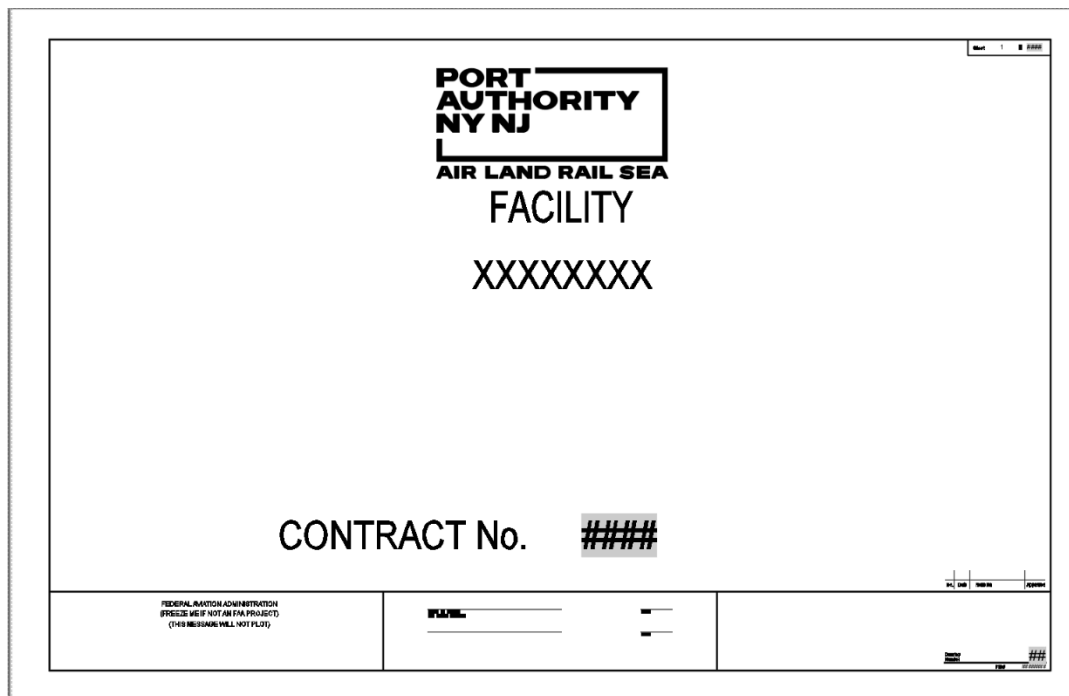
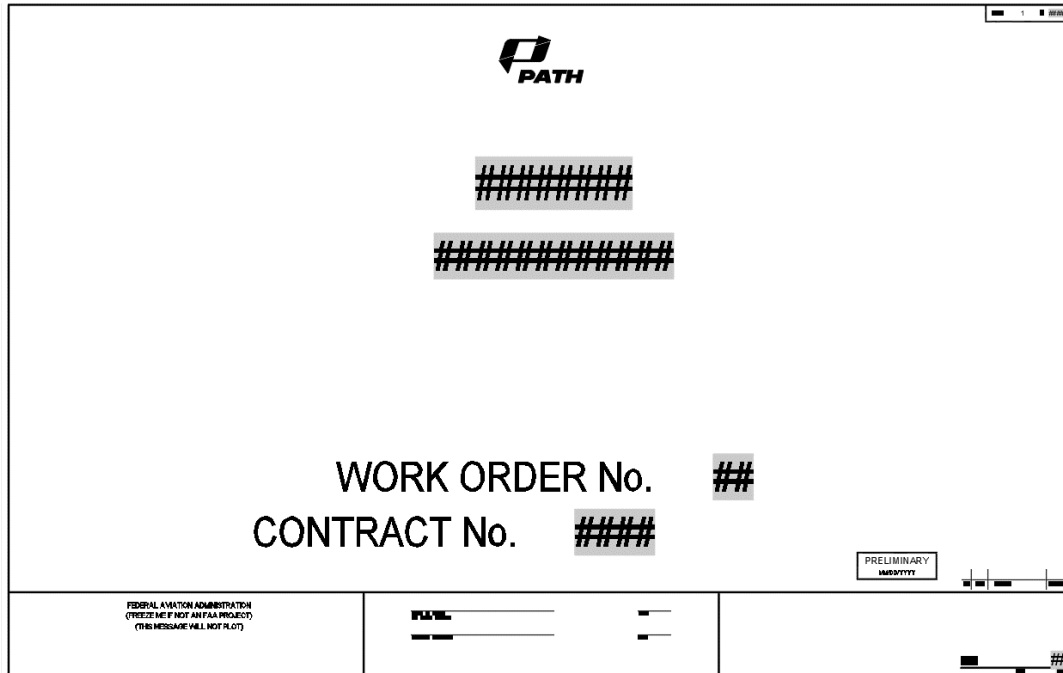

Figure 8.1. Standard Title Sheet Provided with the EAD CAD Standard.
Figure 8.2. PATH Title Sheet Provided with the EAD CAD Standard.
The term “Title Sheet” refers to the topmost sheet of the plan set. The use of block attributes will ensure consistency between contracts and improve the appearance of sets. It is important to maintain the integrity of the Title Sheet, therefore no changes are allowed to this sheet. Figure 8.1 is shown the default Title Sheet provided with the EAD CAD Standard and in Figure 8.2 is shown the Title Sheet to be used for PATH only Projects. For both cases an Over Size (OS) version 34x56 is also provided in the support files.